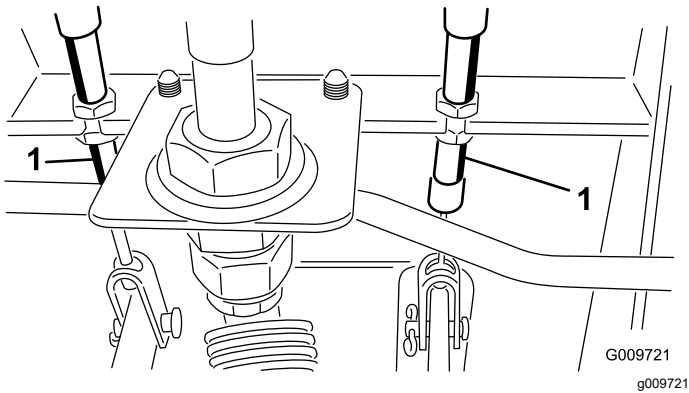

Figure 88
- A. Loosen the front nut on the threaded end of the brake cable (Figure 88).